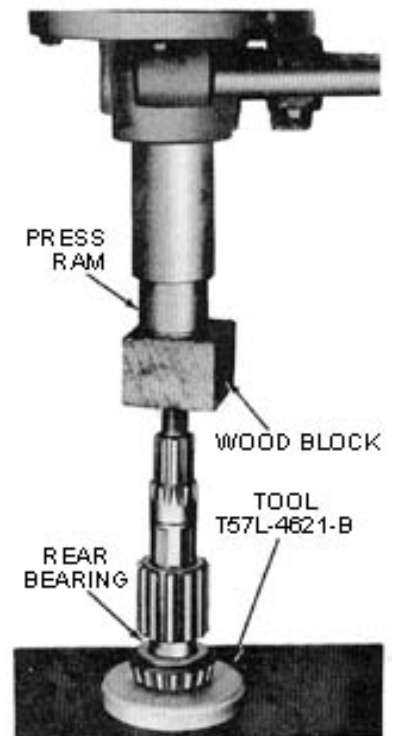

Figure 15 – Installing Front Output Shaft Rear Bearing
2. Install the bearing as shown in Fig. 15.